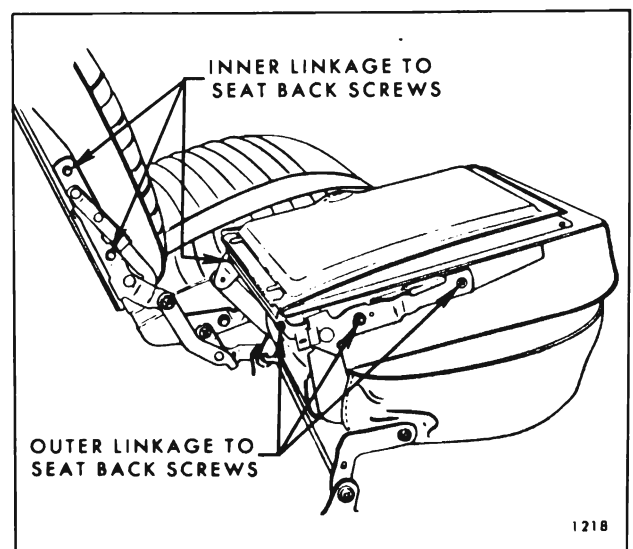

Fig. 15-75—Seat Inner and Outer Linkage
2. Remove outer and inner linkage to seat back attaching screws (Fig. 15-75). Remove seat back lock handle, spring and bushing from between outer linkage and seat back panel; then, remove seat back panel and rear floor filler panel from linkage.